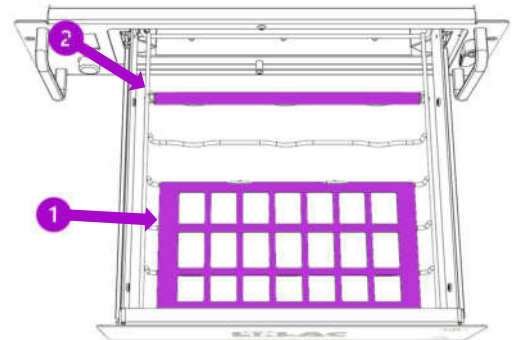

Fig. 4
1. Put the cable tray onto the metal grille. (Fig. 4, 1). The cable tray is fixed magnetically.
2. Insert the spiral spring in the area of the first cross bar (Fig. 4, 2).